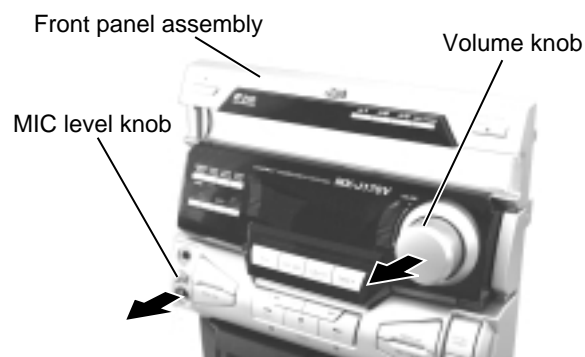

Fig.28
### ■ Removing the MIC/headphone board (See Fig.28 and 29)
1. Align the gear-cam with the gear-tray as shown fig.28, then mount the CD tray.